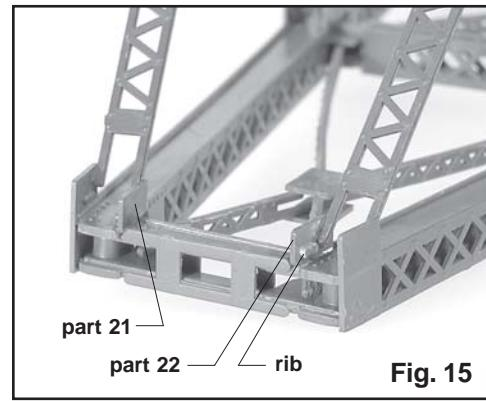

Fig. 15
18. Cement the top tower gusset plates (21) and (22) to the tower.
Lay the tower on a bent side and cement parts (21) and (22) to the bent assemblies and to the 3rd story tower X braces. Align these parts so the rib is to the inside, down, and toward the top of the tower. Part (21) is cemented on the left side, part (22) on the right. See fig. 15. Repeat on the other bent side of the tower.